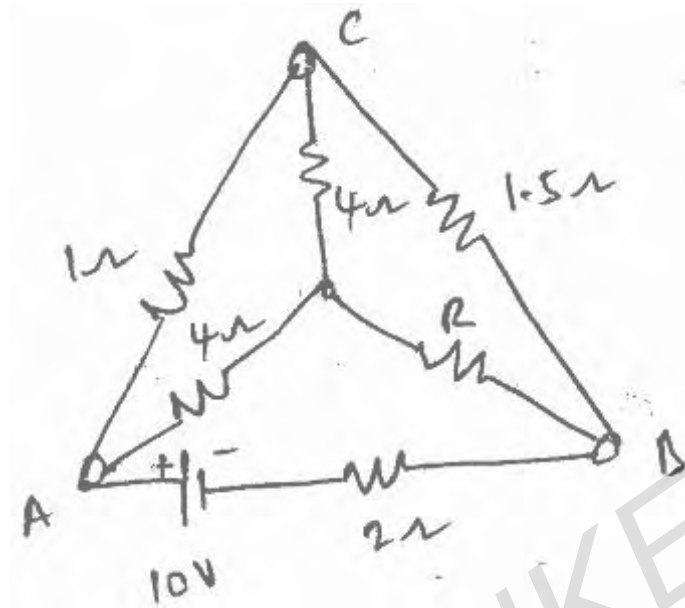

Figure 1
5. Calculate the unknown resistance R and the current flowing through it when the current in the branch OC is zero. (figure 1) [16]